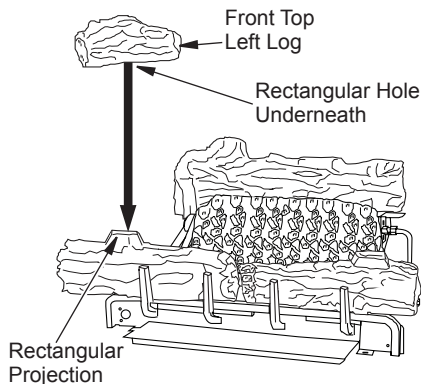

Figure 31 - Installing Top Left Front Log
5. Place top left front log onto front left log. Match the rectangular projection on top of front left log with the rectangular hole on the bottom of the top left front log. The top left front log will rest on top of the front left log (see Figure 31).